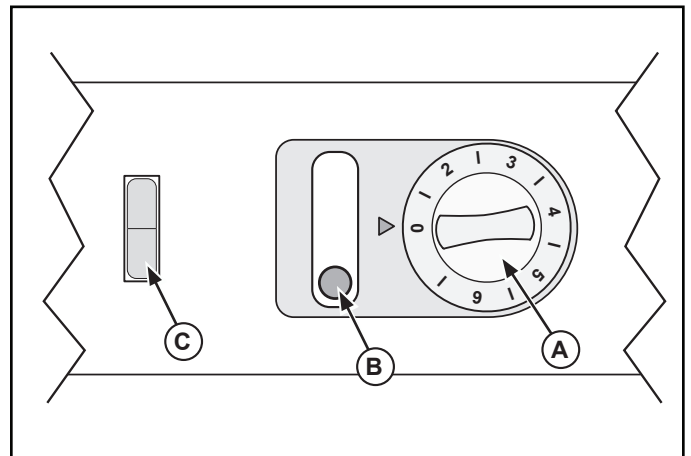

Figure 1. Light Switch, Pilot Light and Temperature Control Dial.
- (A) TEMPERATURE CONTROL.** Used to set or adjust the temperature of the well. The larger the number the higher the temperature, the smaller the number the lower the temperature. The “0” position is “OFF”.
4. Switch the light switch (C) "ON" or "OFF" as desired.
5. Preheat the water in the well by covering well with empty food containers or covers. Set the temperature control (A) to the maximum setting. Figure 1. Preheat for 30 minutes.
8. Set the temperature control (A) to maintain proper hot holding temperature for food safety. Regularly check food temperature.
3. Switch the light switch (C) "ON" or "OFF" as desired. See Figure 1.
4. Preheat the water in the well by covering well with empty food containers or covers. Set the temperature control (A) to the maximum setting. Preheat for 30 minutes.
7. Set the temperature control (A) to maintain proper hot holding temperature for food safety. Regularly check food temperature.